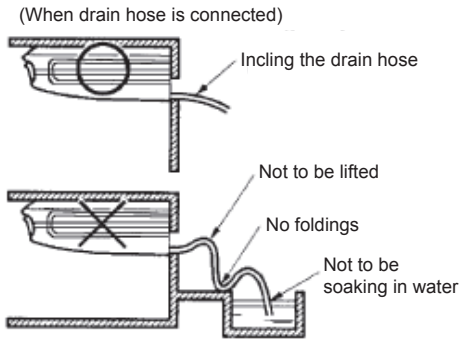
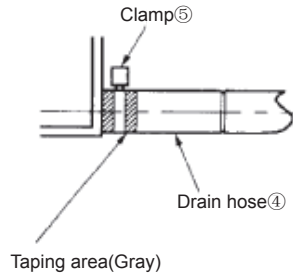

Fig.10
Fig.11
- (1). Drain piping.
- \* Take the drainpipe as short as possible and slope downward at a gradient of at least 1/100 to prevent air pockets.(Refer to Fig.10)
- \* Use the attached drain hose ④ and clamp ⑤ .
- \* Insert the drain hose completely into the drain socket. Tighten the clamp within the range of gray tape until the screw head is less than 4mm from the hose. (Refer to Fig.11, Fig.12)